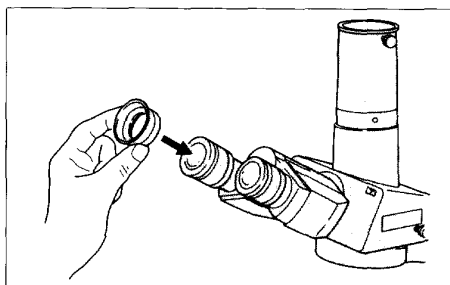

Fig.2-16
- When using eyeguard rubbers, insert them into the eyepieces (Fig. 2-16).